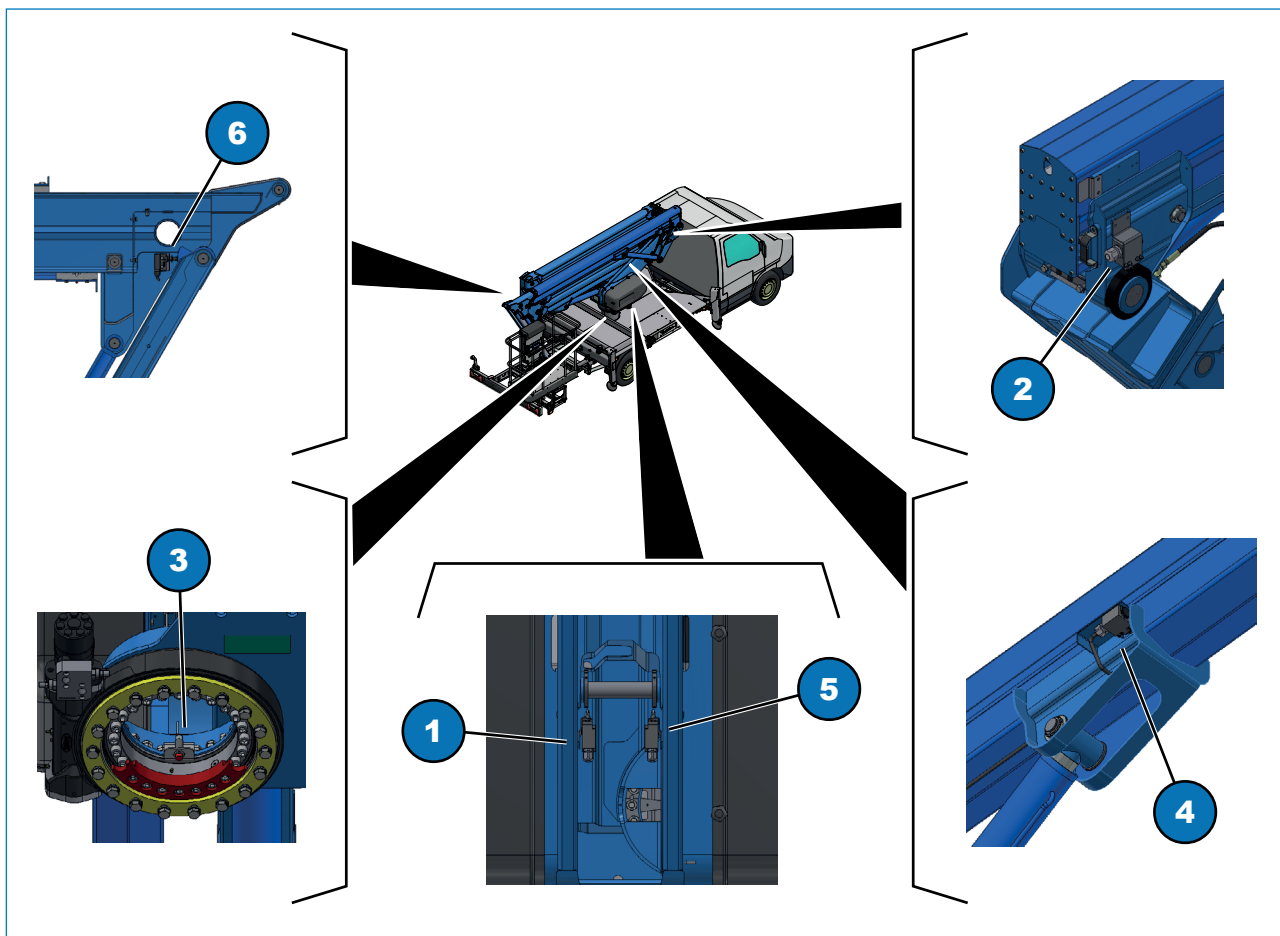

Fig. 5.11
- one (Fig. 5.11, 6) located on the aerial;
- one (Fig. 5.11, 2) located behind the telescopic boom
- two (Fig. 5.11, 5) located on the turret;
and an inductive sensor (Fig. 5.11, 3) located on the work platform slewing ring.
Micro-switch (Fig. 5.11, 1) is also used for slowing down when the articulated boom is being closed.